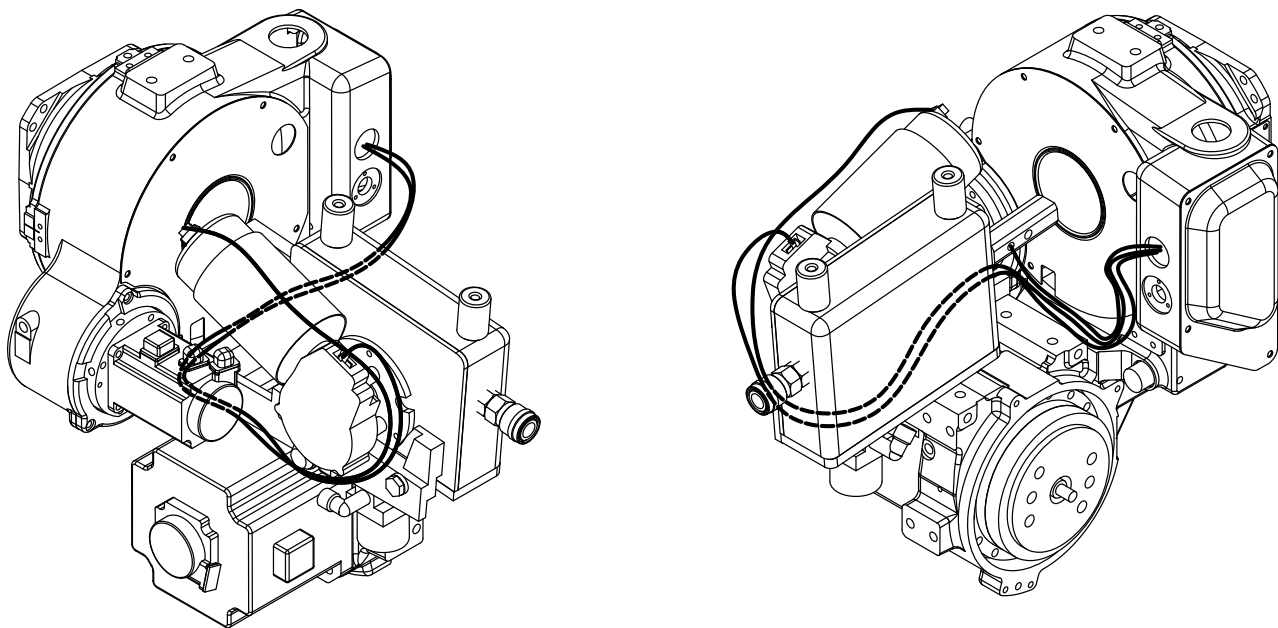

Fig. 2.7 Mounting of manipulator fixing bracket and wire feeding unit (Procedure (9))
- (10) Referring to Fig. 2.7, pull in motor cables, encoder cables, and voltage detection cables through a hole in the blind cover, and then connect them to the robot cables. For detail of cable connections, refer to the Electrical Wiring Diagram shown in Section 9.
- (11) After connecting cables, put the connector in the PE bag as before. And, bind the opening of the PE bag in the binder.
- (12) Return the side cover to its original position.